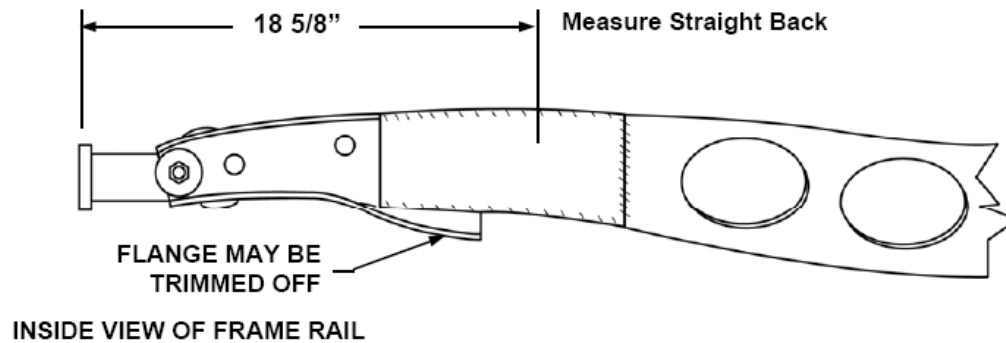

Figure 1- Boxing Frame & Axle Centerline
3. The front section of the frame should be boxed with a small pair of boxing plates, as shown in **Figure 1**. The rails should be squared up as far as the flanges are concerned and made straight and true. The boxing plates are then laid up against the rails and clamped in place. Weld short sections at a time to minimize warpage. Grind smooth when done.
4. Now, mark the axle centerline. Scribe a line around the frame rail at 18 5/8" from the front. See **Figure 1**. Repeat for both rails. This line represents the axle centerline.